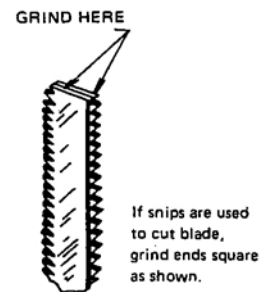

Figure 14
**IMPORTANT:** If a blade has been cut by using snips, the ends of the blade must be ground square before welding them together, as shown in Figure 14.